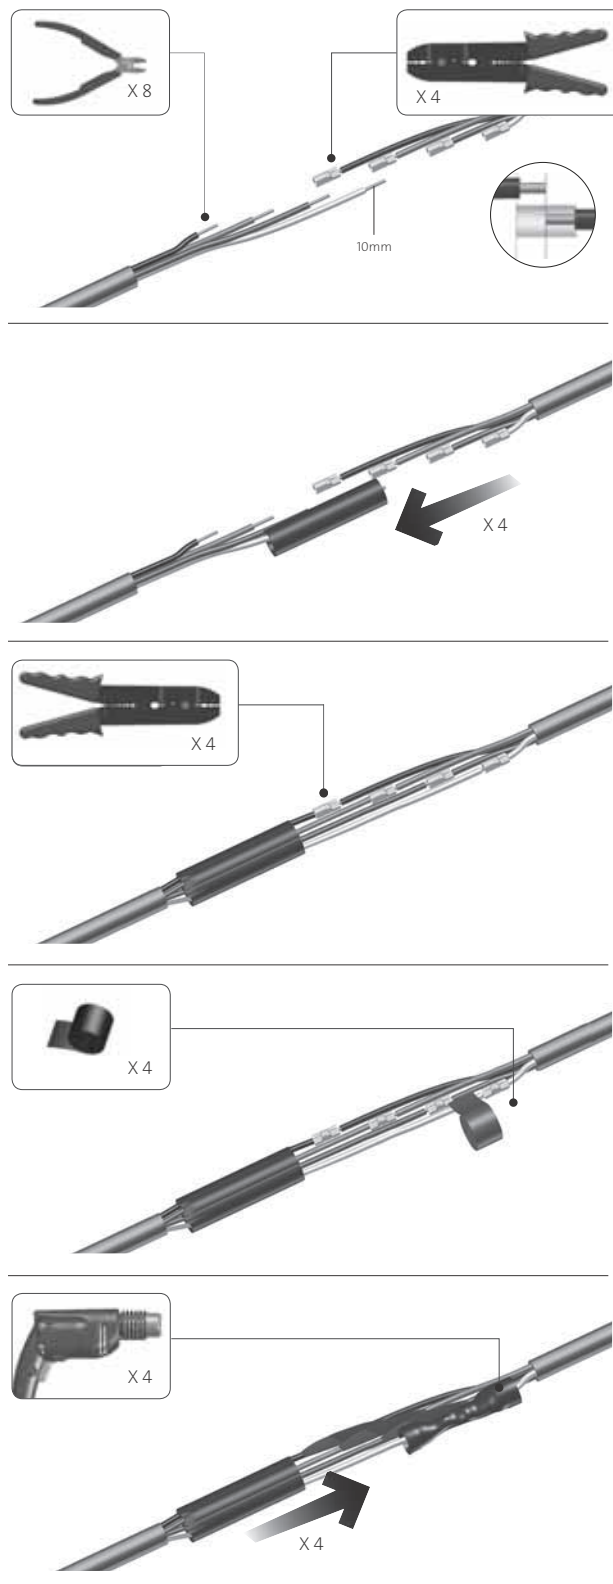
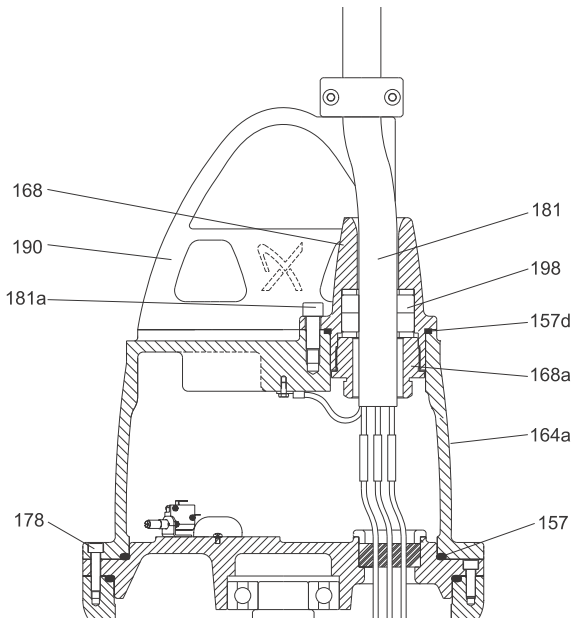

Fig. 74 Joining of wires, KPL 500, 600.
Fig. 75 Top cover details, column 500-600.
1. Lubricate and fit the O-ring (pos. 157) on the upper bearing bracket (pos. 61c). See fig. 75.
2. Lubricate and fit the O-rings (pos. 157d) on the cable entry (pos. 168).
3. Mount the cable entry (pos. 168) on the motor top cover (pos. 164a), fit the screw (pos. 181a) and tighten it according to section 7. *Tightening torques and lubricants*.
4. Connect the earth cables to the earth connections inside the motor top cover (pos. 164a).
5. Lift the motor top cover (pos. 164a) by the lifting bracket (pos. 190), so that the motor top cover is 15 cm above upper bearing bracket (pos. 61c).
6. Place a correct-size heat shrink tubing on both stator and sensor wires. See fig. 74.
9. When all wires are connected, wrap insulating tape around each wire and place the heat shrink tubing over the cable joint and use a heat gun (pos. F) to shrink the tubing. See fig. 74.
11. Mount the motor top cover (pos. 164a) and the screws (pos. 178) and tighten them according to section 7. *Tightening torques and lubricants*.